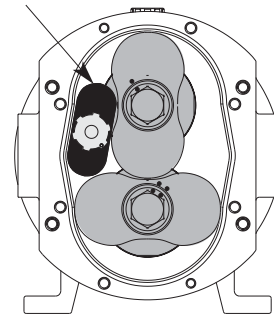

Figure 10
3. Position the rotors **27** and insert the rotor locking tool **111** as shown in figure 10.